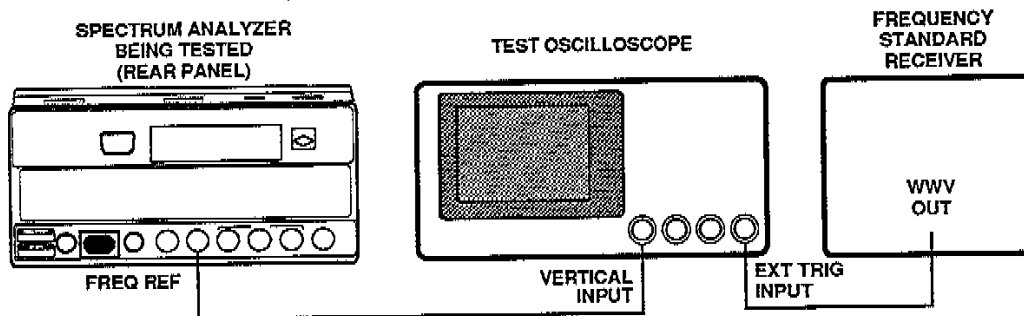

Figure 3-8. Test Equipment Connections for Reference Oscillator Check and Adjustment.
1. Connect the output of the rear-panel FREQ REF connector through a 50 Ω cable to a vertical channel input of the Test Oscilloscope, as shown in Figure 3-8.